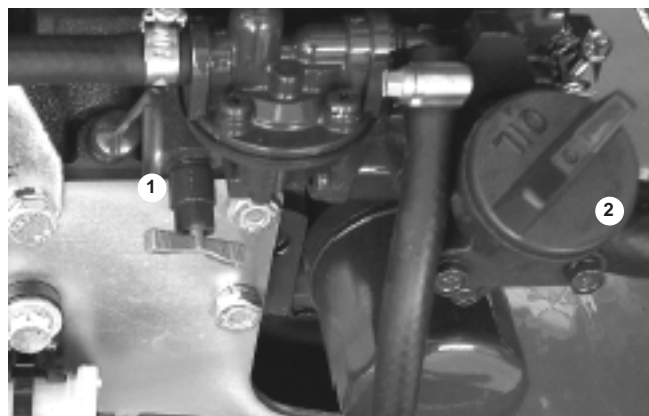

Figure 7.6 - Engine Oil Level
Keep the oil level between the marks on the dipstick (1) (see Figure 7.6).
The distance between the top and bottom dipstick marks corresponds to about 1 qt. (one (1) litre). Add oil, if needed at the cap (2) (see Figure 7.6), there is an alternative filler cap on top of the engine.